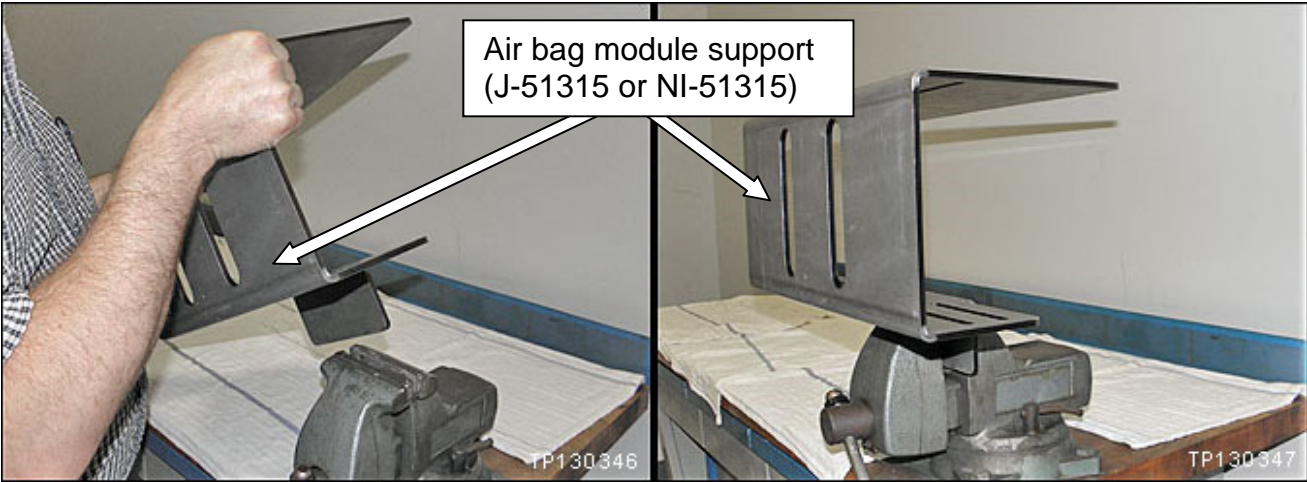

Figure 14
16. Securely mount the air bag module support (support) in a vise (Figure 14).